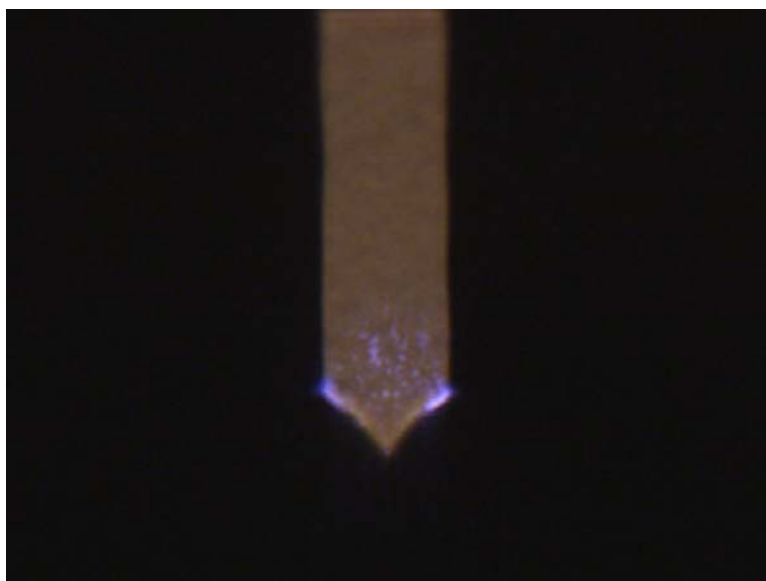
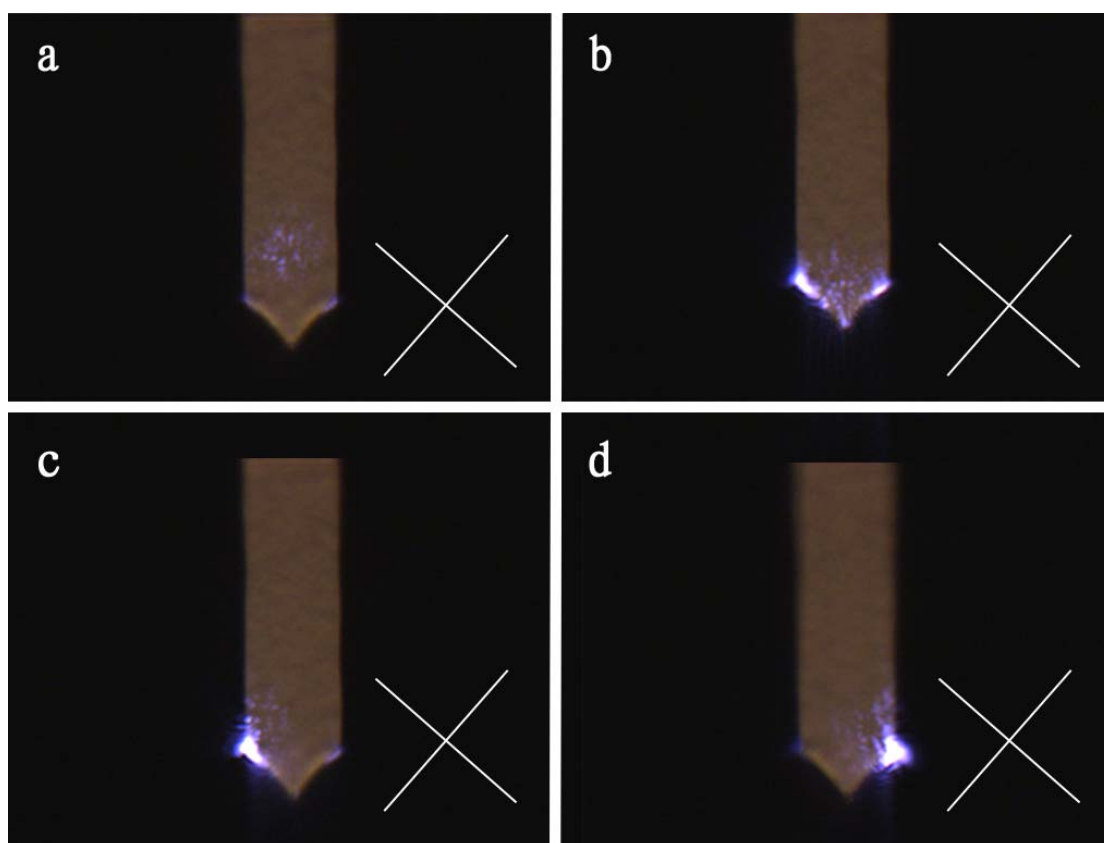

Fig. 2: correct laser spot position on the backside of the cantilever
Fig. 3: some incorrect cases of laser spot position
- (1) With the help of the CCD vision, in the “Motors” control window, adjust the “Focus” so that the backside of the cantilever can be viewed clearly.
- (2) Then adjust the two laser aligning screws located on the upper part of the XE-150S head to move the laser spot to the tip of the cantilever as shown in Fig. 2. Fig. 3 shows that the laser spot deviates from the correct position to a) up, b) down, c) left and d) right.